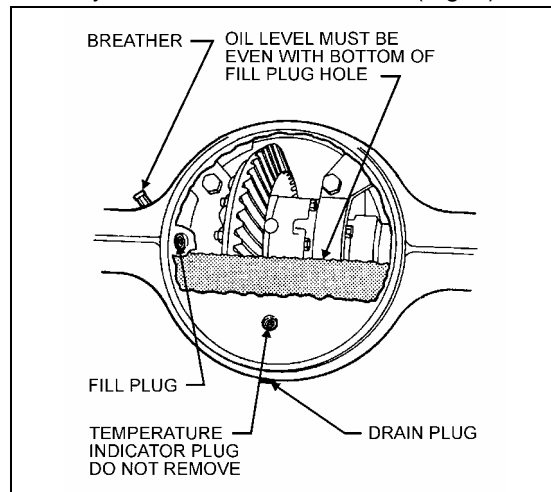

FIGURE 2: DIFFERENTIAL AXLE HOUSING BOWL 11007
| FIGURE 2: DIFFERENTIAL AXLE HOUSING BOWL..... | 11-2 |
Use Multigrade gear oil MIL-L-2105-D. Use the 75W90-gear oil for northern climates and the 80W140 for southern climates. In extreme conditions, or for better performance, fill with synthetic gear oil. Check oil level and add (if necessary) every 6,250 miles (10 000 km) or twice a year, whichever comes first (Fig. 2).
3. Clean the area around the fill plug. Remove the fill plug from the differential axle housing bowl (Fig. 2).